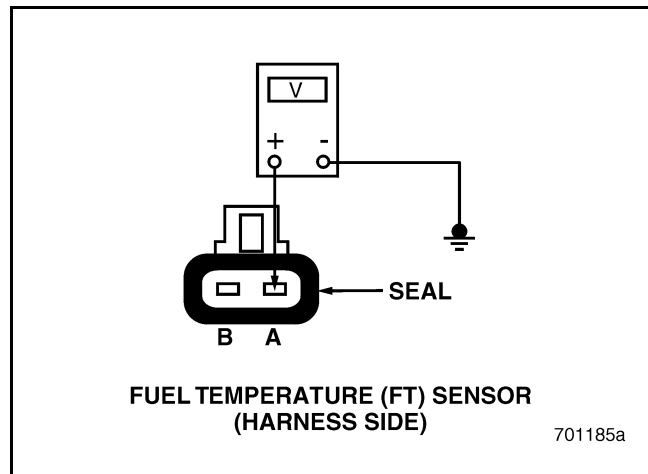

Figure 46
3. Measure the voltage between FT Sensor harness connector pin A and a good ground (see Figure 46).